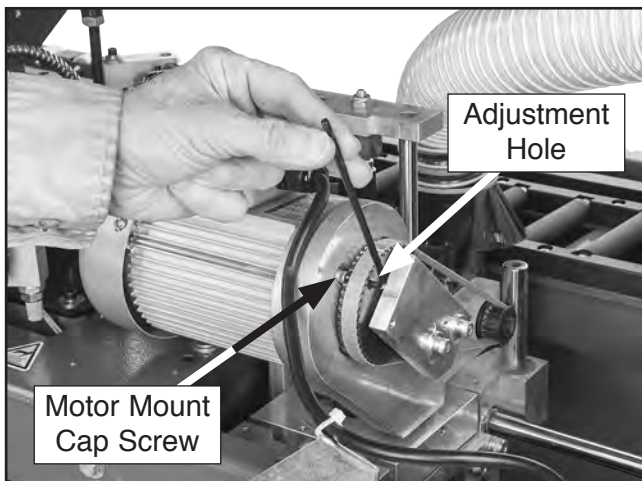

Figure 108. Loosening one of four end trimmer motor mount cap screws.
- Rotate end trimmer motor pulley by hand until adjustment hole aligns with one of four motor mount cap screws (see **Figure 108**).
- Insert long-handled hex wrench into adjustment hole, as shown in **Figure 108**, and loosen—but do not remove—motor mount cap screw.